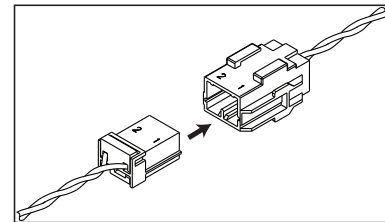

Figure 3
1. With the vehicle battery OFF, make connection between the vehicle wiring harness and the driver knee airbag. See **Figure 3**.